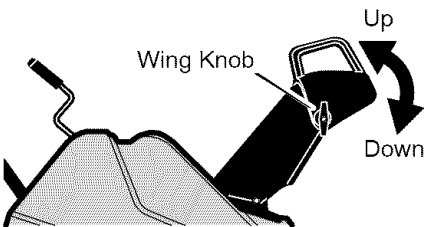

Figure 5
2. Loosen the **wing knob** on the chute deflector and move the deflector to set the distance. Move the deflector (**Up**) for more distance, (**Down**) for less distance. Then tighten the **wing knob** (See Figure 5).